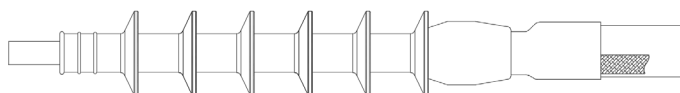

Fig.10
- Complete the shrinkage of the product, as shown in Fig.10.